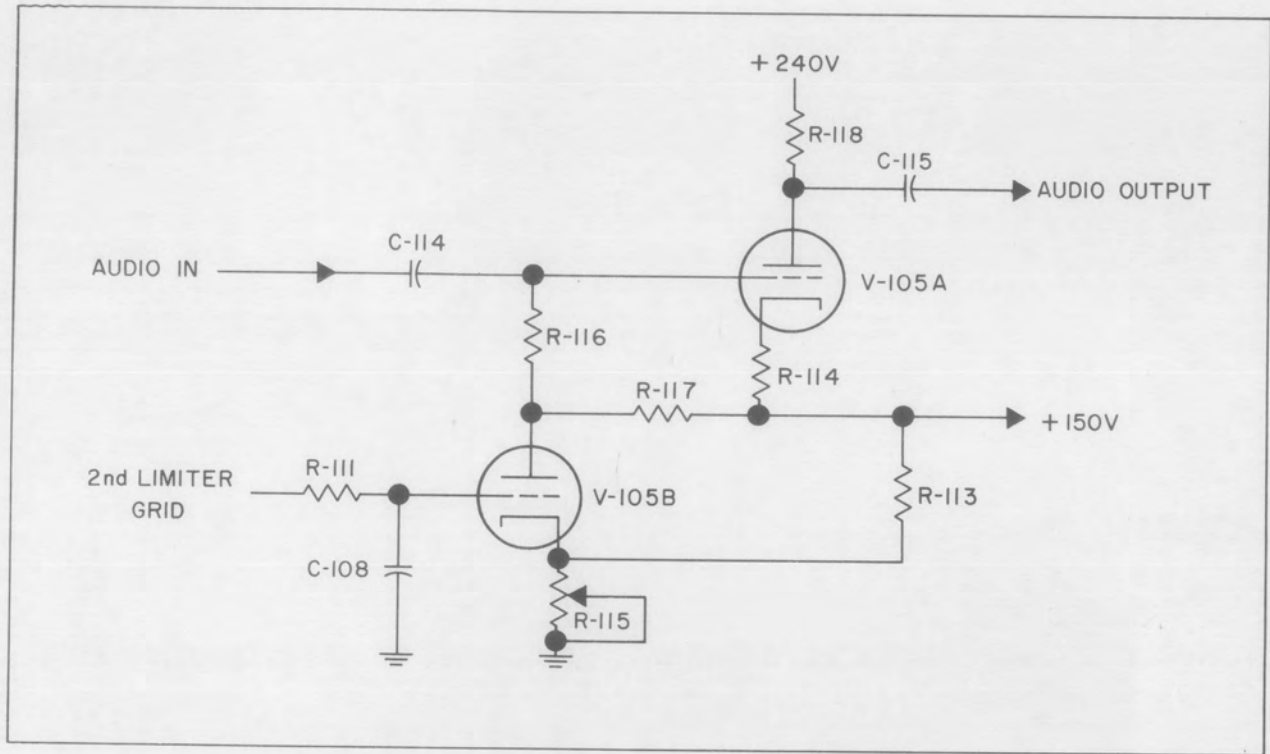

Figure 3. Model G-110B Receiver Squelch Circuit, Simplified Schematic
k. THE SQUELCH CIRCUIT.--The squelch circuit is best described with the aid of the simplified schematic of Figure 3. V-105A acts as a gated audio amplifier stage, while V-105B serves as a d-c amplifier and gate generator. The circuit is connected in such a manner that V-105B has zero grid voltage when no signal is being received and has a negative signal applied when a carrier is being received. The audio amplifier stage, V-105A, will pass an audio signal when the d-c amplifier, V-105B, is non-conducting, and will not pass an audio signal when V-105B is in a conducting condition. In this manner the audio circuit is disabled when no carrier is being received. The carrier strength necessary to make the audio section operative is adjusted by the threshold (squelch) control R-115. The operation of this circuit is detailed in the following paragraph.